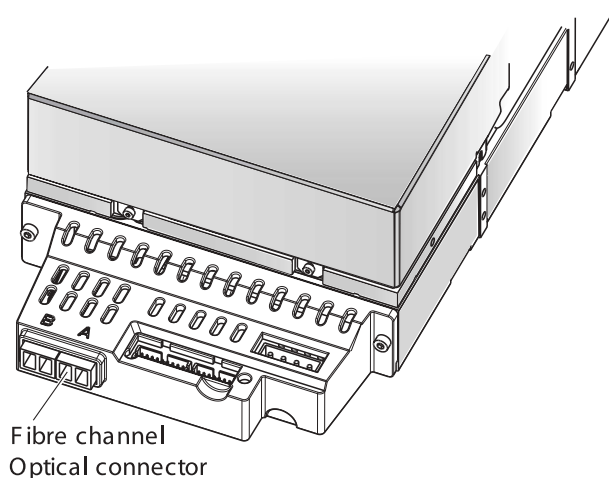

Figure 11. FC Optical Connectors on the Back of the Internal LTO-1 FC Drive
2. Attach the interface cable to either of the two LC optical interface connectors on the back of the drive (labeled A and B in Figure 11 on page 26).